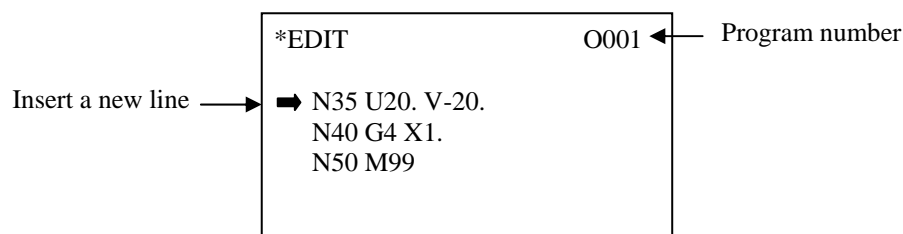

Fig 6.7
3. Enter data as below and LCD display is as Fig 6.7. Note that the letter “N35” can not be keyed in from keyboard. Depending on the values of MCM #93 and #94, the actual block number may be different.